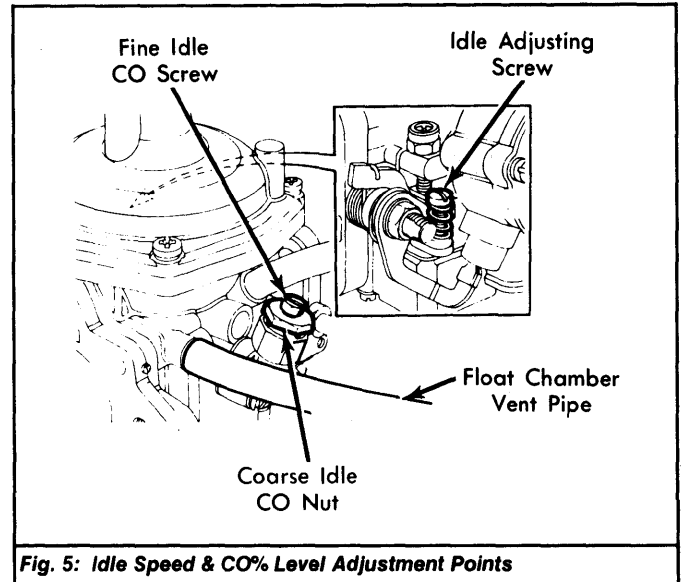

Fig. 5: Idle Speed & CO% Level Adjustment Points
3) Disconnect air injection pump outlet hose and plug the hose. DO NOT plug air pump outlet, or damage to pump may occur. Disconnect float chamber vent pipe from carburetor. See Fig. 5.